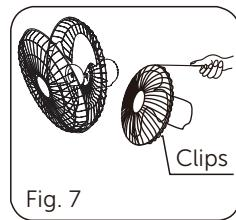

Fig. 7
6. Mount the front guard and join both guards together using the clips (see Fig. 7).